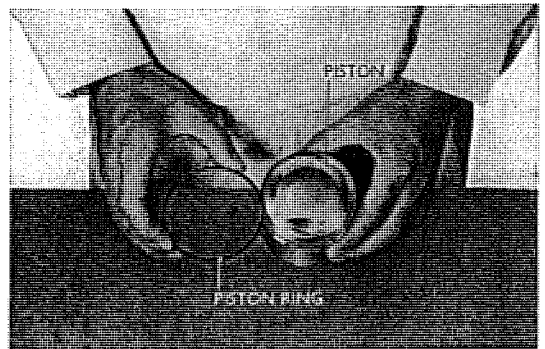

Fig. 3.106 Inspecting piston ring by rotating around the ring groove
2. When piston ring is set on the piston, any catch between the ring and the groove may prevent smooth operation. It is necessary to inspect the status, when the ring is fitted to the groove, by rotating the ring around the circumference. (Refer to Fig. 3.106)